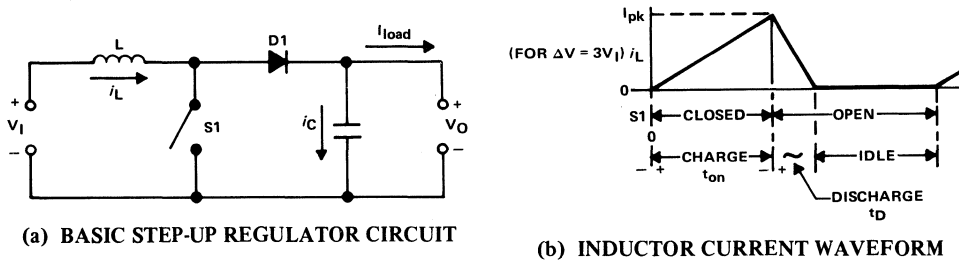

Figure 30. Step-Up Switching Regulator
The circuit in Figure 30(a) delivers power to the load only during the discharge cycle of the inductor (S1 open). The diode (D1) is forward biased and the inductor discharges into the load capacitor. Figure 31 shows a positive, step-down configuration both with and without an external pass transistor. Design equations are included.
During the charging cycle (S1 closed), the inductor (L) is charged only by the input potential, similar to the step-up configuration. In the inverting configuration, the input provides no contribution to the load current during the charging cycle. The maximum load current for discontinuous operation will be limited by the peak current, as observed in the step-up configuration. The inductor current waveform looks identical to the waveform demonstrated in the step-up configuration [see Figure 30(b)].